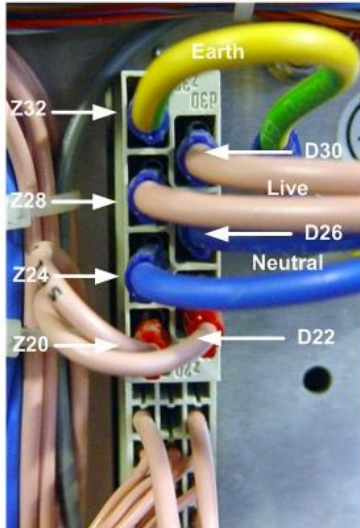

Figure 1 – MDU Connections
3. Disconnect the blue and pink power cables from the rear of the MDU (top right connector bank) z28, z24, d30, d26 (See Figure 1).
10. Connect the pre fitted blue and pink cables coming from the filter to the connector PL1 on the back of the rack; pink to d30 and z28; blue to d26 and z24 (see Figure 1).